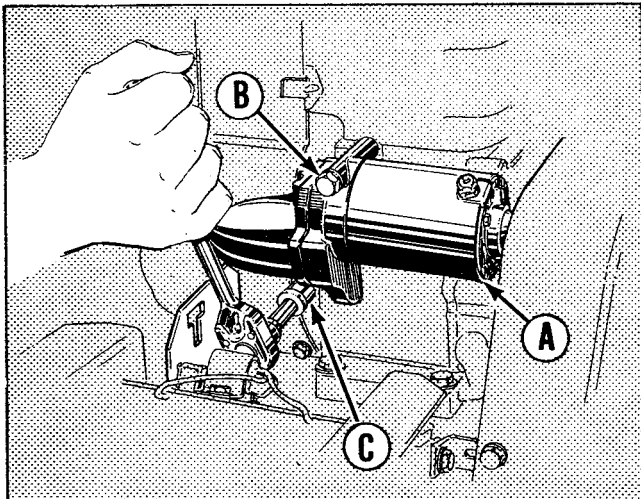

FIGURE 6
9. Install the starter motor (A) against the engine using the long (B) and short (C) bolts provided. The motor is installed using the two holes vacated by the engine cover plate. (See figure 6.)